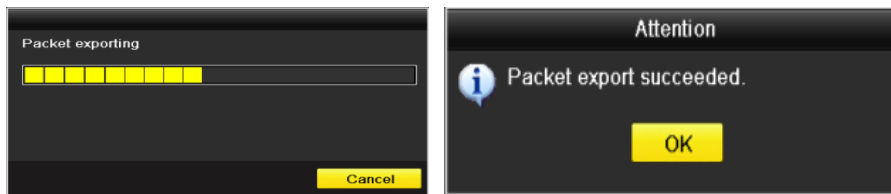

Figure 11-30 Packet Export Attention
Step 5 After the exporting is complete, click **OK** to finish the packet export, as shown in Figure 11-30.